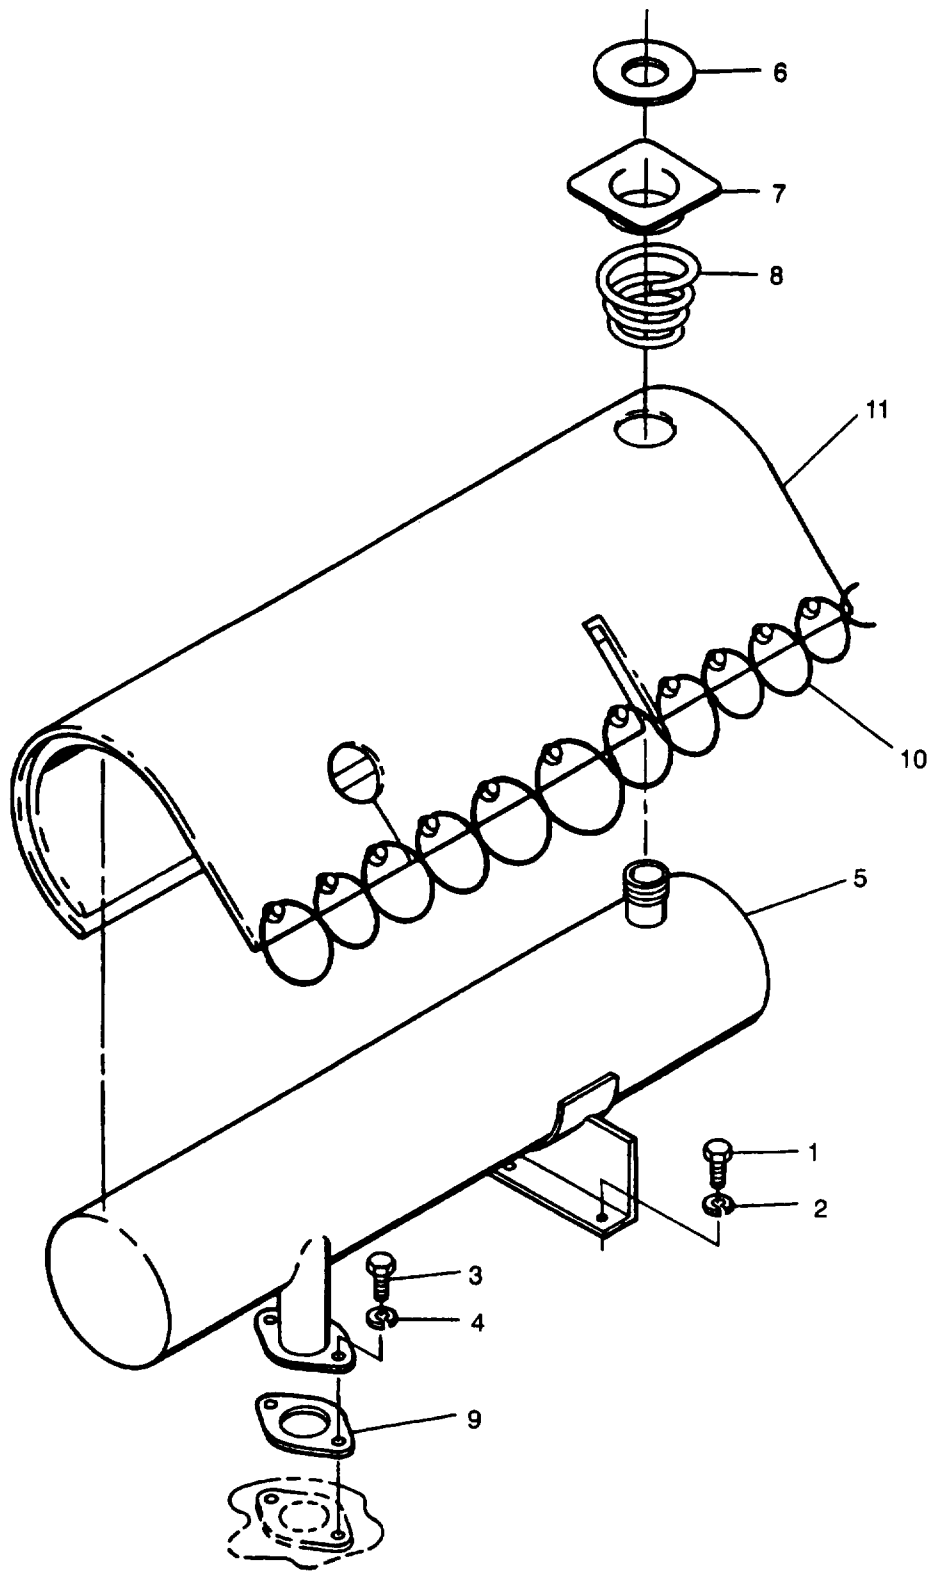

Figure 2-18. Muffler
- c. Remove bolts (1, Figure 2-18) and lockwashers (2) at intake manifold.
- d. Remove bolts (3), lockwashers (4), muffler (5), exhaust seal (6), retaining plate (7), and exhaust seal spring (8) from generator set.
- e. Remove gasket (9) from exhaust manifold.
- f. Unlace safety wire (10) and remove wrap (11) from muffler (5).
- a. Install muffler wrap (11, Figure 2-18) on muffler (5) with safety wire (10) in a criss-crossing pattern.
- b. Install gasket (9), exhaust seal (6), retaining plate (7), exhaust seal spring (8), and muffler (5) at exhaust manifold with lockwashers (4) and bolts (3).
- c. Secure other end of muffler (5) with lockwashers (2) and bolts (1).